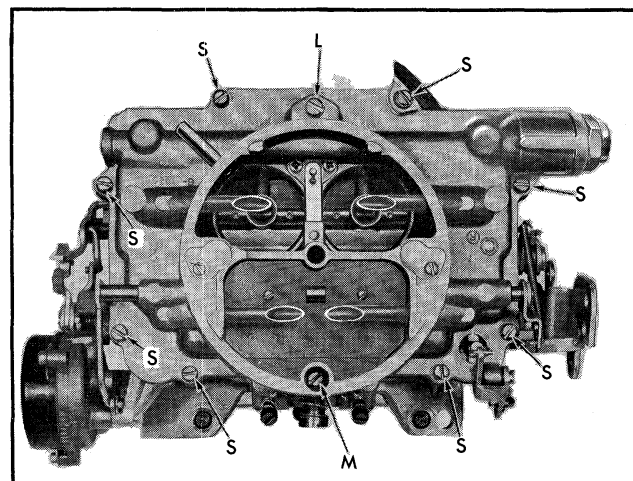

Fig. 6B-96 Location of Air Horn Attaching Screws S = Short M = Med. L = Long
C. ADJUST FLOAT DROP (Fig. 6B-95)